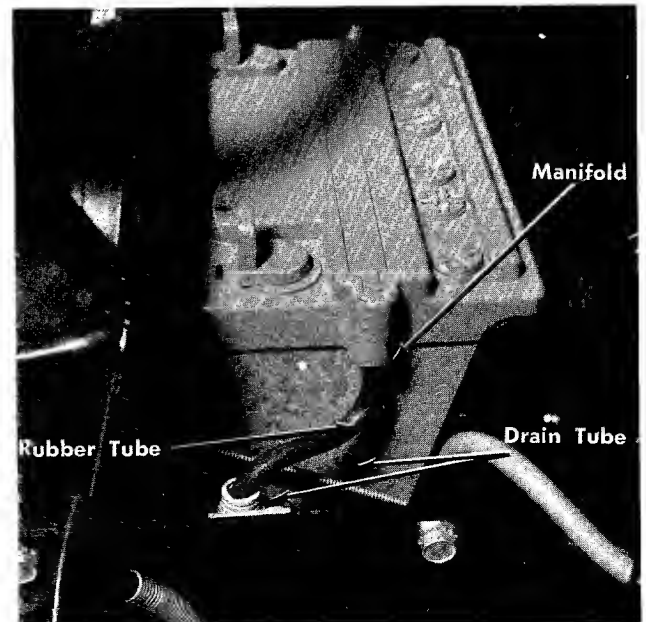

FIGURE 8.
- Step 7. Push the rubber tubing into the manifold of the battery and place the other end into the drain tube. (See figures 8 and 9.)